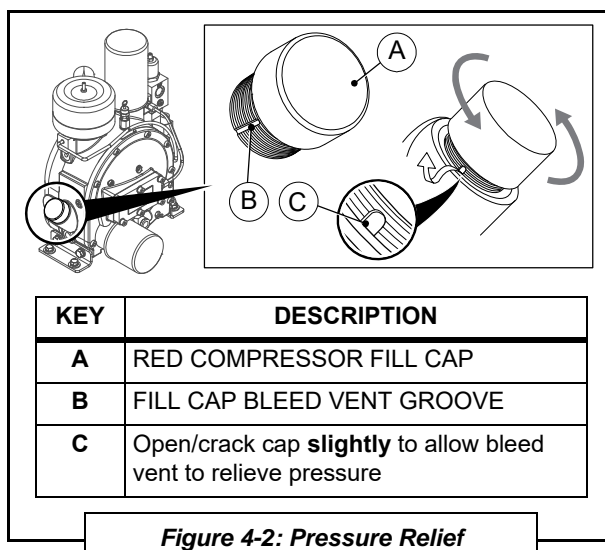

Figure 4-2: Pressure Relief
4. Check compressor oil level (refer to **Figures 4-2** and **4-3**).